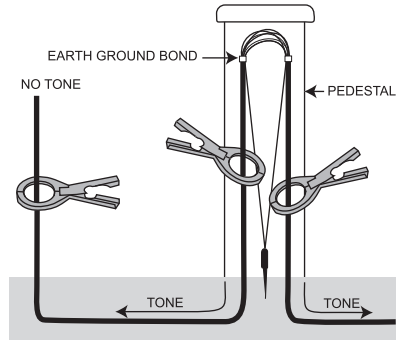

Fig. 10. Coupling Points
Applying the coupler above the bond will effectively "block" the tone from transmitting past the grounding point. (See Fig. 10) By strategically placing the clamp in the direction of the transmitter, tone may be controlled.
3. **Near End Coupling:** To supply tone from the end of a cable, the end of the cable must be bonded or grounded. (See Fig. 10)